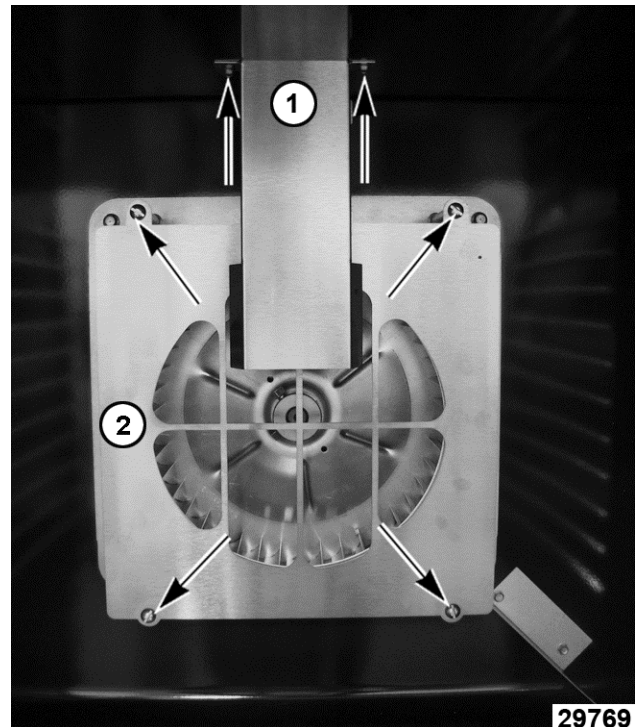

Fig. 21
- Remove snorkel (1, Fig. 21) and baffle panel (2, Fig. 21) mounting screws.
3. Install snorkel (1, Fig. 21) and baffle panel (2, Fig. 21).